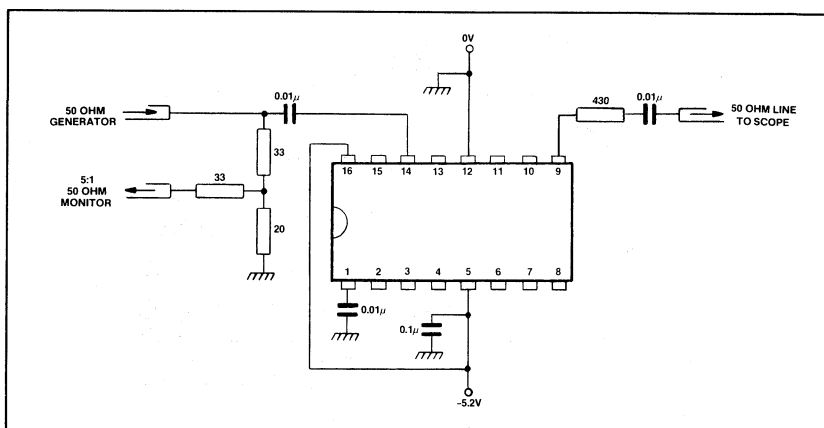

Fig.8 SP8735 high frequency test circuit
4. The test configuration for dynamic testing is shown in Fig.8.